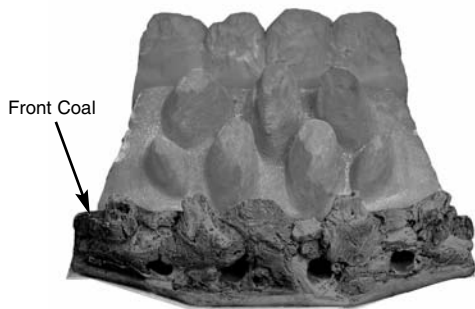

Fig. 43
3. Position the front coal on the front coal retainer, making sure that the back edge is pushed up against the front of the burner strip (Fig. 43).